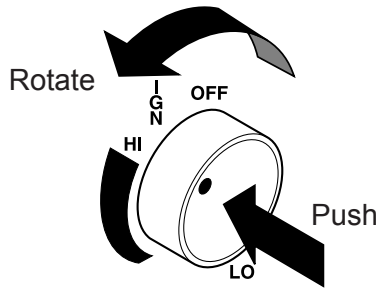

Figure 46 - HIGH Position
10. Push in control knob and turn counterclockwise  to the HIGH setting. At this location the control knob will pop out when positioned correctly. The knob can now be positioned at any position between HIGH and LOW. Refer to *Figures 46 and 47*.